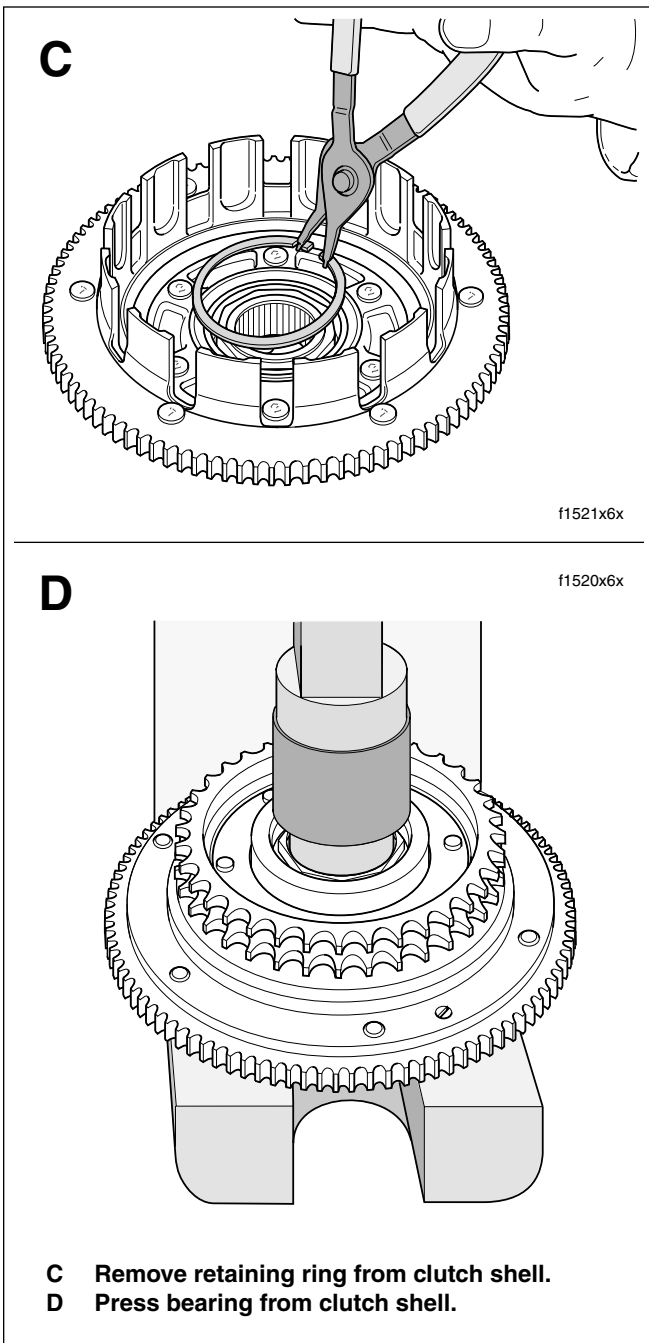

Figure 6-5. Remove Bearing from Clutch Shell
7. Turn clutch shell over so that the sprocket side is down. Remove retaining ring from groove in clutch shell bore. See upper frame of Figure 6-5.
8. Turn clutch shell over so that sprocket side is up. Using arbor press and a suitable press plug, press on inner race to remove bearing from clutch shell bore. See lower frame of Figure 6-5.